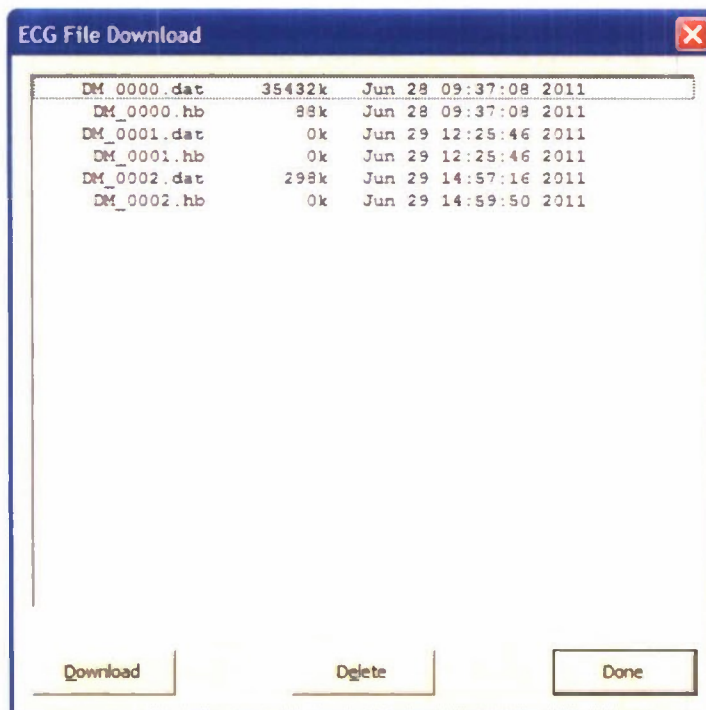

Figure 6. Dialog Box Used for Downloading or Deleting Data from the DHMS Sensor
| Figure 6. | Dialog Box Used for Downloading or Deleting Data from the DHMS Sensor..... | 9 |
Downloading Data. After completing a recording session, the PC application can be used to download the data from the sensor. Simply choose the **Commands** menu item and select **File Download...** Figure 6 shows the dialog box that appears to allow the user to select which data files to download from the sensor. Note that similarly-named files appear in pairs. One pair of files is created for each recording session. The file with the .dat extension holds the raw ECG data, while the smaller file with the .hb extension holds the heartbeat and heart rate values. The user can select one or more files to download and then press the **Download** button at the bottom. The user can also delete files from the sensor using this dialog box. Since the downloading process uses the wireless interface, the download can take a lot of time (one hour to download four hours of raw ECG data). It is recommended that longer files be downloaded while the sensor is charging in its dock.
2. Select Files to Download. As shown earlier in Figure 6, the DHMS software presents a listing of all of the data files stored in nonvolatile memory on the DHMS sensor. Each recording session has a pair of files. The raw ECG data is stored in the .dat file and the heartbeat (and heart rate) data is stored in the .hb file. Select the file that you would like to download. Multiple files can be selected holding down the **Shift** key while clicking.